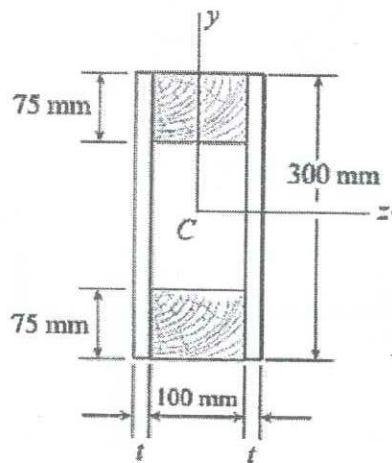

Fig. Q1
- Q1. A simply supported beam of span 3 m carries a uniformly distributed load of intensity 48 kN/m. The cross section of the beam is a hollow box with wood flanges and steel side plates, as shown in Fig. Q1. The wood flanges are 100 mm x 75 mm in cross section, and the steel plates are 300 mm deep. The modulus of elasticity for steel and wood are 200 GPa and 10 GPa, respectively. The self-weight of the beam is negligible.